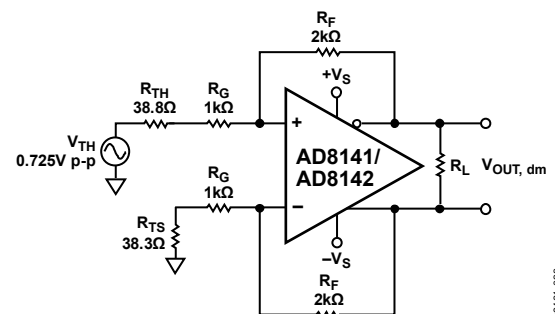

Figure 40. Thevenin Equivalent and Matched Gain Resistors
1. $R_{TH} = R_S || R_T = 38.8 \Omega$, and $R_{TS} = 38.3 \Omega$. Note that V_{TH} is greater than 0.7 V p-p, which was obtained with $R_T = 75 \Omega$ alone. The modified circuit with the Thevenin equivalent of the terminated source and R_{TS} in the lower feedback loop is shown in Figure 40.
Figure 40 presents a tractable circuit with matched feedback loops that can be easily evaluated.